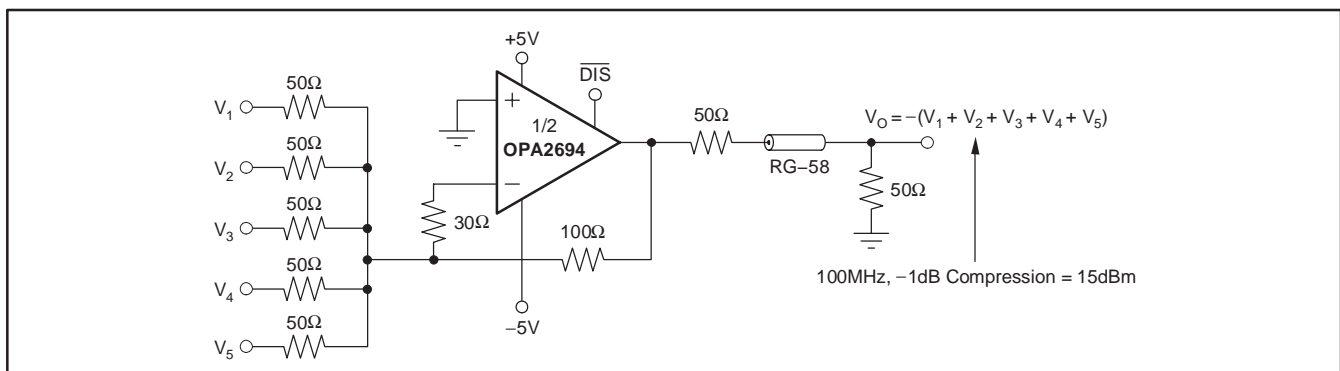

Figure 4. 200MHz RF Summing Amplifier
gain), wideband inverting summing stages may be implemented using the OPA2694. The circuit in Figure 4 shows an example inverting summing amplifier, where the resistor values have been adjusted to maintain both maximum bandwidth and input impedance matching. If each RF signal is assumed to be driven from a 50Ω source, the NG for this circuit will be  $(1 + 100\Omega / (100\Omega / 5)) = 6$ . The total feedback impedance (from VO to the inverting error current) is the sum of RF + (RI • NG), where RI is the impedance looking into the inverting input from the summing junction (see the *Setting Resistor Values to Optimize Performance* section). Using 100Ω feedback (to get a signal gain of -2 from each input to the output pin) requires an additional 30Ω in series with the inverting input to increase the feedback impedance. With this resistor added to the typical internal RI = 30Ω, the total feedback impedance is 100Ω + (60Ω • 6) = 460Ω, which is equal to the required value to get a maximum bandwidth flat frequency response for NG = 6.
The total impedance going into the inverting input may be used to adjust the closed-loop signal bandwidth. Inserting a series resistor between the inverting input and the summing junction will increase the feedback impedance (denominator of Equation (2)), decreasing the bandwidth. This approach to bandwidth control is used for the inverting summing circuit of Figure 4. The internal buffer output impedance for the OPA2694 is slightly influenced by the source impedance looking out of the noninverting input terminal. High source resistors will have the effect of increasing  $R_i$ , decreasing the bandwidth.